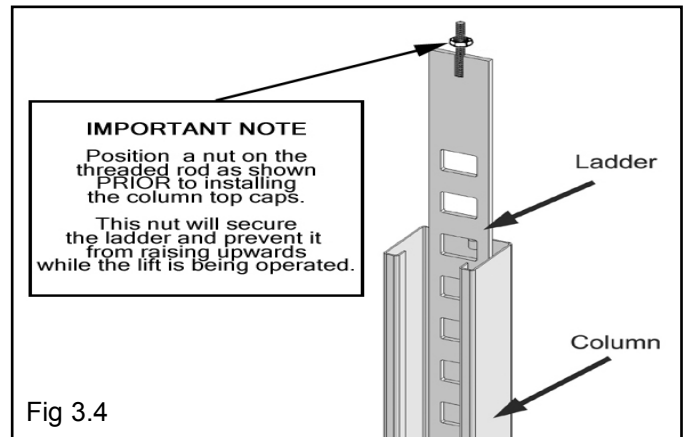

Fig 3.4
4. With the Columns standing and the cross tubes in position, install the Safety Ladders. Pass the Ladders through the Column openings and drop down through the Slide Block guide slots on the Cross Tube until the Ladders come to rest on the Base Plates. If bolting, **DO NOT BOLT** Columns down at this time. (See Fig. 3.4 - 3.5)